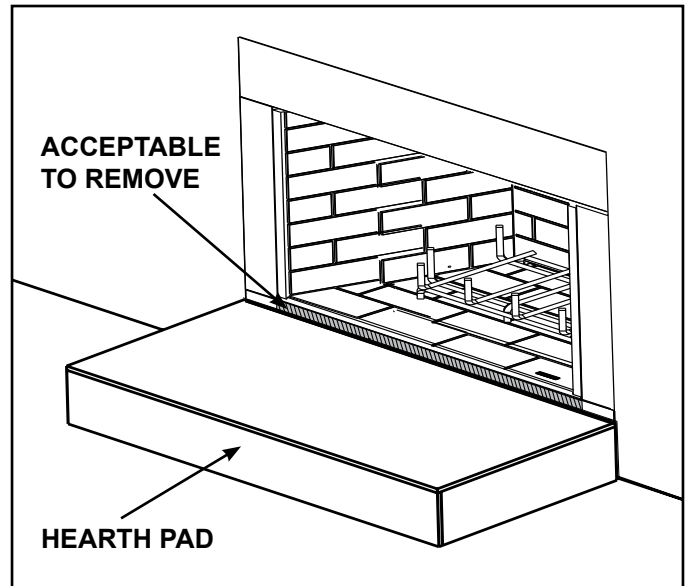

Figure 3.6 Solid Fuel Firebox
- A metal lip protruding above the hearth pad of the solid fuel firebox may be removed. See Figure 3.6.